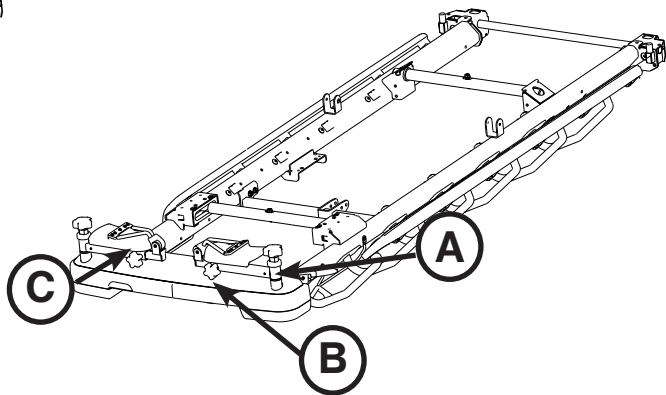

Figure 41: Foot Supports In Stored Position
To store the foot supports (see Figure 41):
1. Fully retract the foot supports using leg knob (B).
2. Fold the foot support pads (C) down toward the support bar.
3. Loosen the knee knob (A), rotate the foot supports to the position shown in the Figure 41 below.
4. Tighten to secure in place using the knee knob (A).